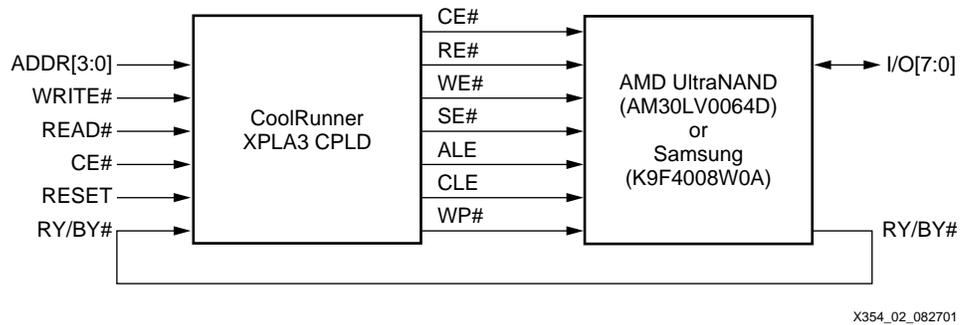

Figure 1: System Block Diagram
**Figure 1** shows the overall system diagram for a single AMD UltraNAND Flash or Samsung memory device. The CoolRunner CPLD reads the 4 least significant bits in the system address